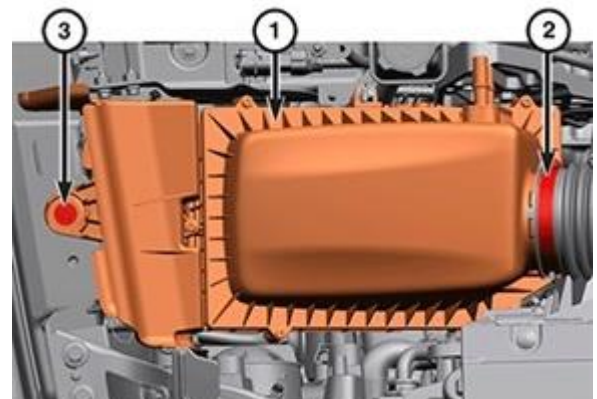

Figure 20 – Air Cleaner
9. Loosen the clean air hose band clamp (2) (Figure 20).
10. Remove the bolt (3) (Figure 20).
11. Disengaging the air cleaner body (1) from the two lower rubber grommets and from the clean air hose (Figure 20).